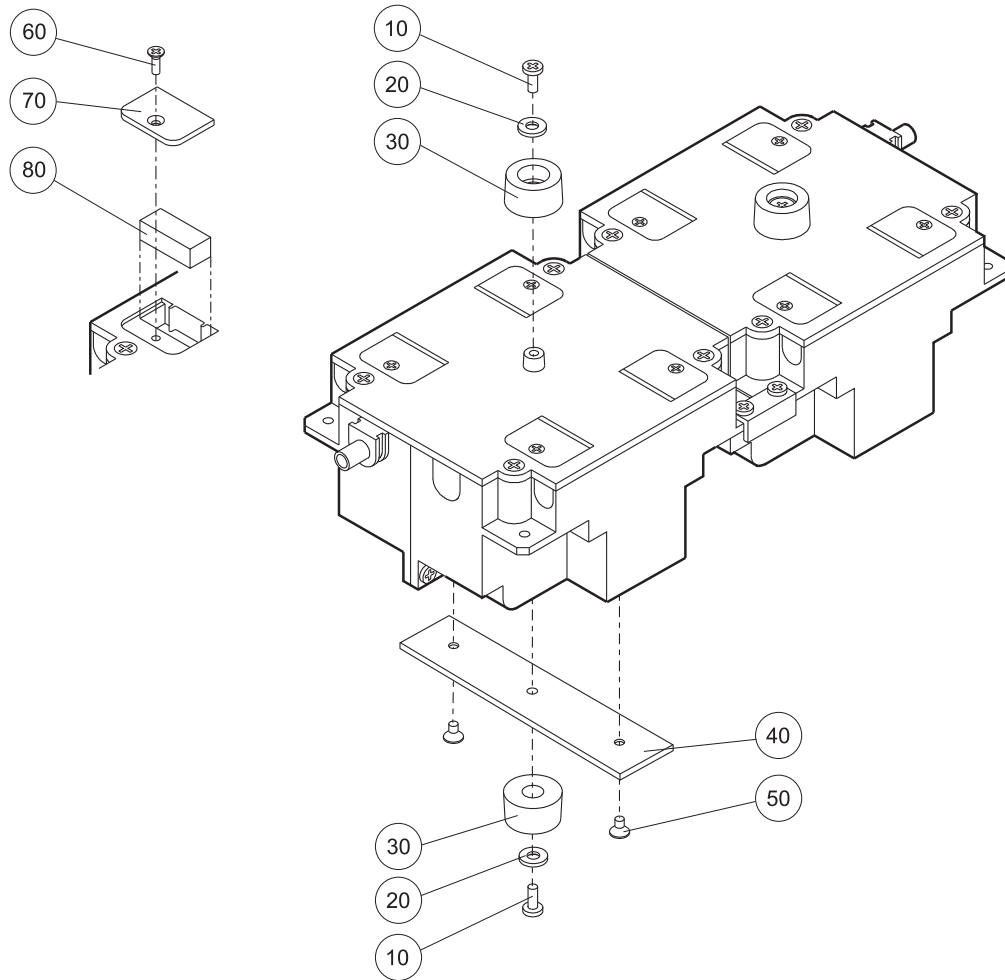

Figure 11 - Replacing the Compressor Bump Stops
- 12.2.1 Remove the screw and the compressor filter lid (Fig 11, Items 60 and 70).
- 12.2.2 Replace the compressor filter (Fig 11, Item 80).
- 12.2.3 Install the compressor filter lid and the screw (Fig 11, Items 60 and 70).
- 13.1 To remove the Compressor Bump Stops (Fig 11, Item 30) from the top of the compressors:
- 13.1.2 Remove the screws, washers and the Bump Stops (Fig 11, Items 10, 20 and 30).
- 13.2 To remove the Compressor Bump Stops (Fig 11, Item 30) from the bottom of the compressors:
- 13.2.2 Remove the screws, washers and the Bump Stop (Fig 11, Items 10, 20 and 30).
- 13.2.3 If necessary, remove the screws and the plate (Fig 11, Items 50 and 40).
- 14.1 To install the Compressor Bump Stops (Fig 11, Item 30) from the top of the compressors:
- 14.1.1 Install the screws, washers and the Bump Stop (Fig 11, Items 10, 20 and 30).
- 14.2 To install the Compressor Bump Stops (Fig 11, Item 30) from the bottom of the compressors:
- 14.2.1 If necessary, install the screws and the plate (Fig 11, Items 50 and 40).
- 14.2.2 Install the screws, washers and the Bump Stops (Fig 11, Items 10, 20 and 30).